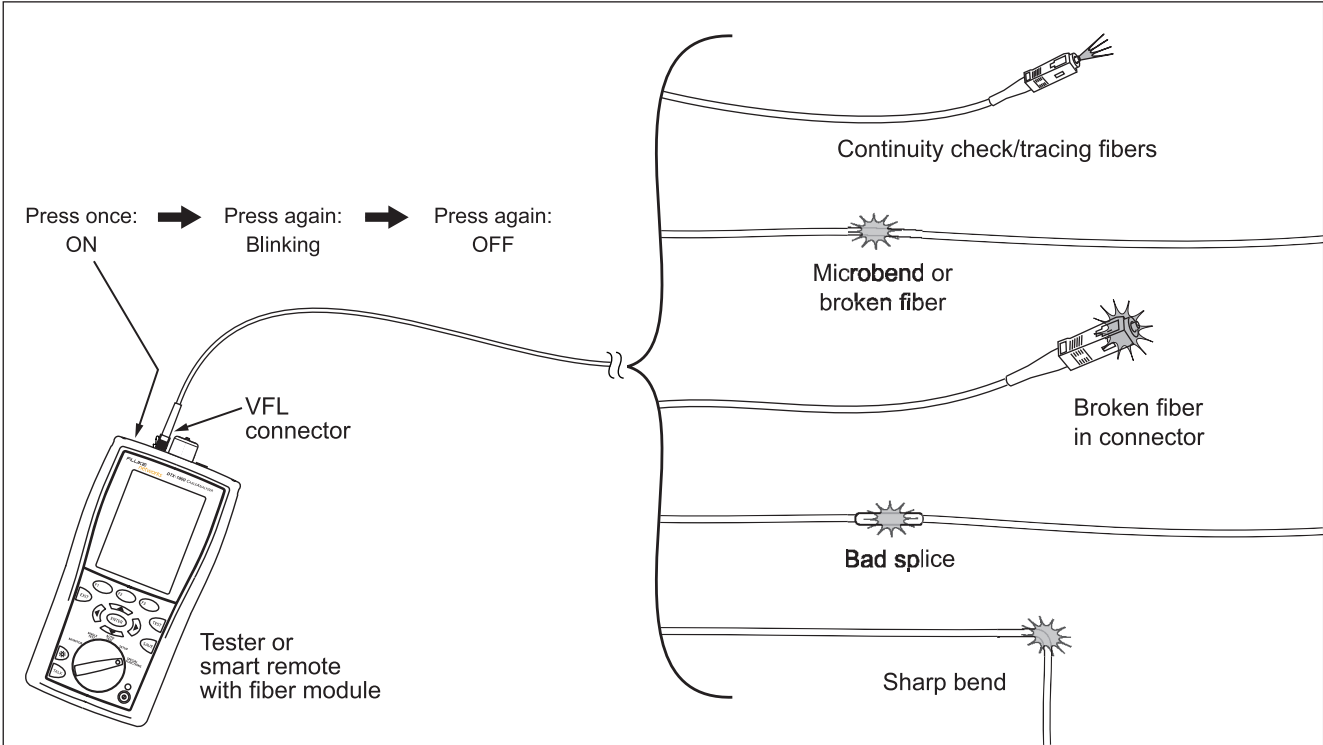

Figure 17. Using the Visual Fault Locator
- 3 Turn on the visual fault locator by pressing the button near the VFL connector, as shown in Figure 17. Press again to switch to flashing mode. Press again to turn off the locator.
- 4 Look for the red light to locate fibers or faults (Figure 17):